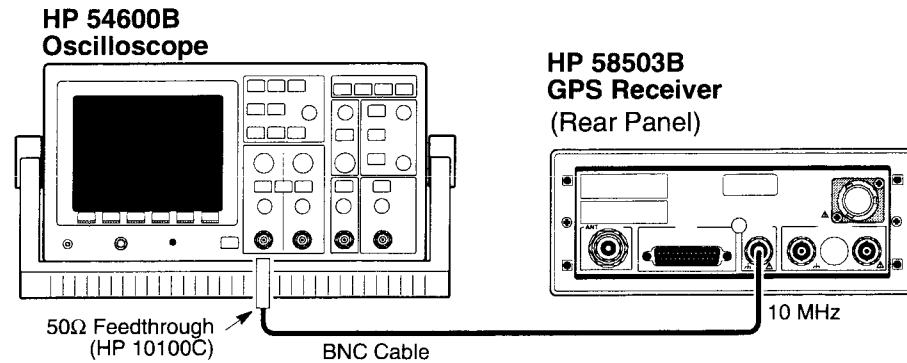

Figure D-1. HP 58503B 10 MHz Operational Verification Setup
- 2 Connect the oscilloscope to the rear-panel **10 MHz OUT** output of the HP 58503B as shown in Figure D-1.